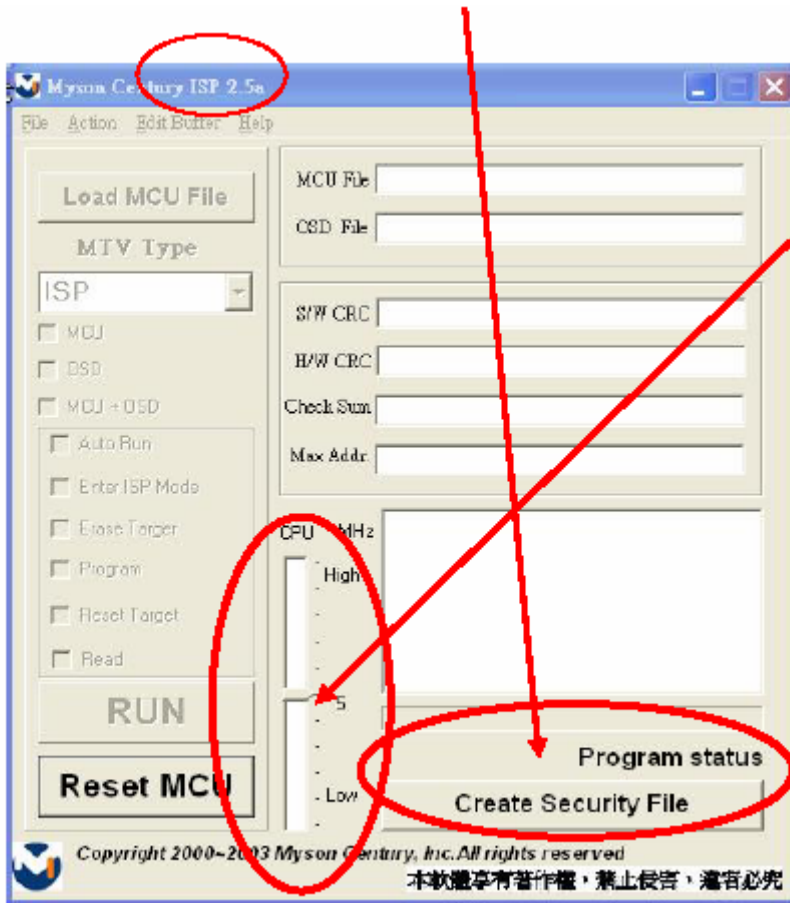

Fig 3.4
2.4 Press “Create Security File” button to key in security code. Adjusting bar to decrease speed of IIC bus, see Fig 3.4.